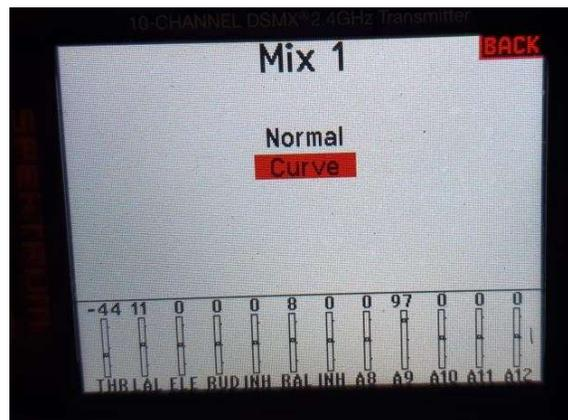

Fig:2
- Choose Curve as shown in Fig:2 (this is where you can set precisely when the glow operates in the throttle curve)